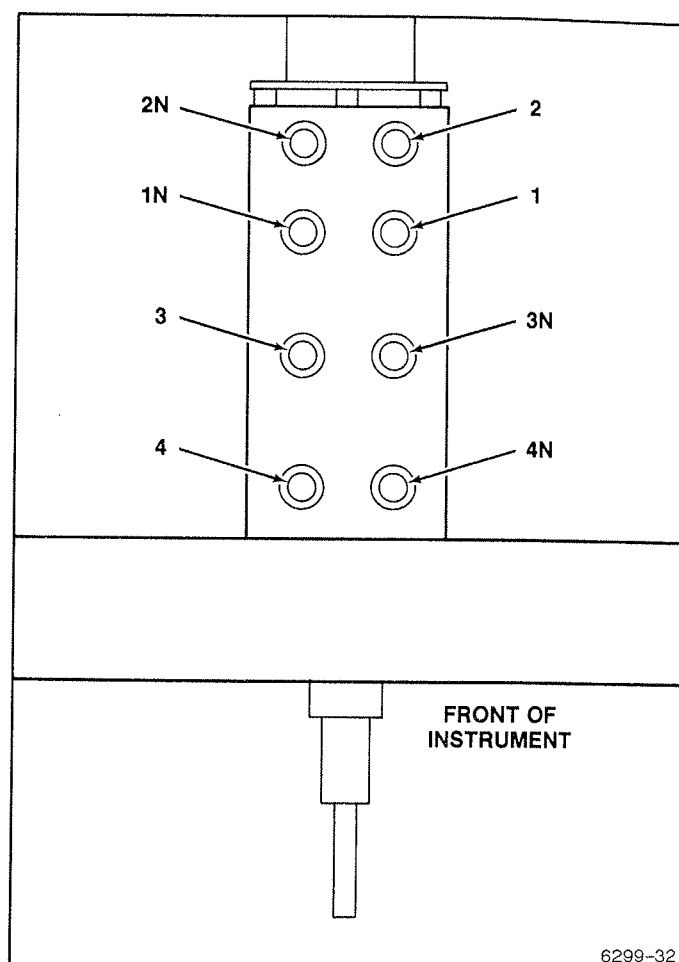

Figure 5-1. Attenuator trimmer adjustments.
f. ADJUST—Trimmer 1 for flattest response on the square wave signal. See figure 5-1 for location of the trimmers.